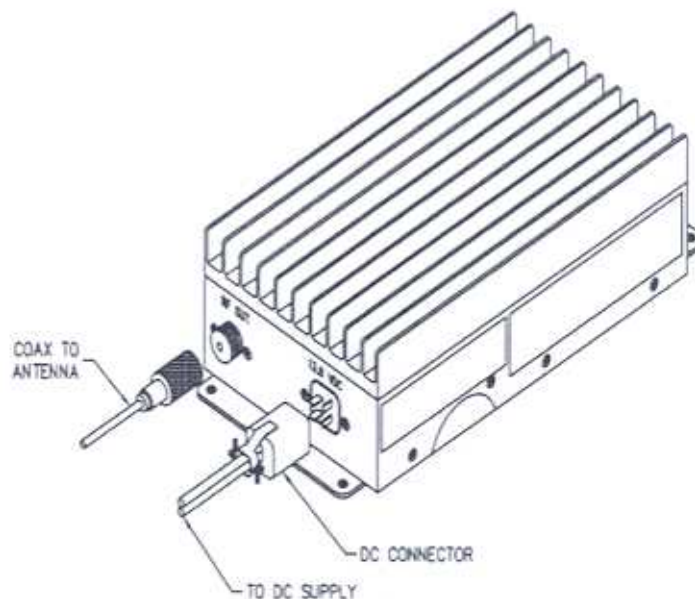

Figure 4. Antenna connection
3. Connect the antenna to the "RF OUT" terminal with a 50 Ω coaxial cable and a PL-259 UHF male connector according to figure 4.